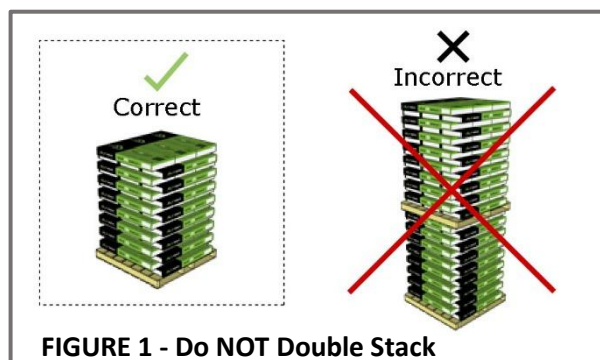

FIGURE 1 - Do NOT Double Stack
- Do NOT double or triple stack pallets.** Stacking pallets on top of each other will subject the materials on the bottom to excessive pressure, and could cause permanent deformation. See **Figure 1**.